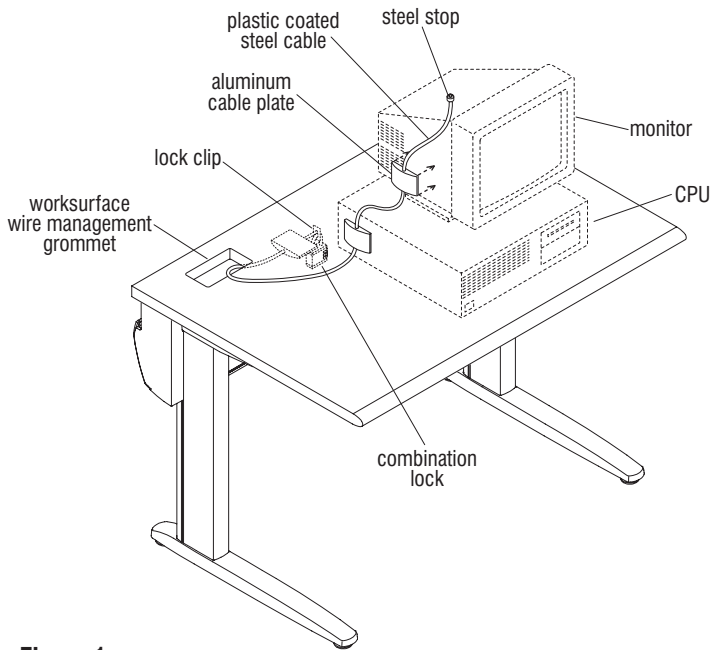

Figure 1
1. Following the glue manufacturer's directions, fasten one of the aluminum cable plates to the side or back of the monitor. Plate should be oriented so the hole in the plate is vertical. Do not fasten plate to any vent areas or uneven surfaces on the monitor (Figure 1).
2. Fasten the second aluminum cable plate to the back or side of the CPU, following the glue manufacturer's directions (Figure 1).
4. With the plastic coated steel cable in hand, route the small end through the first and middle aluminum cable plates as illustrated. The opposite end of the cable has a steel stop which will rest on the top of the first cable plate, and lock the cable from passing through (Figure 1).